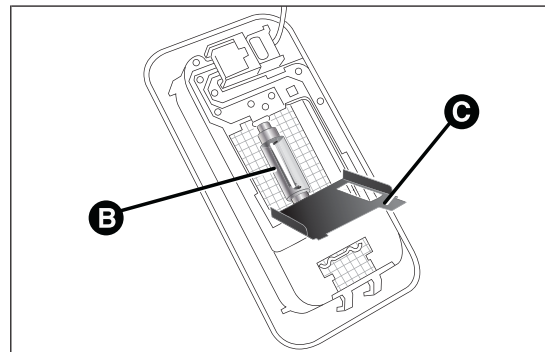

fig. 146
- open the flap C fig. 146 and replace the bulb B releasing it from the side contacts;